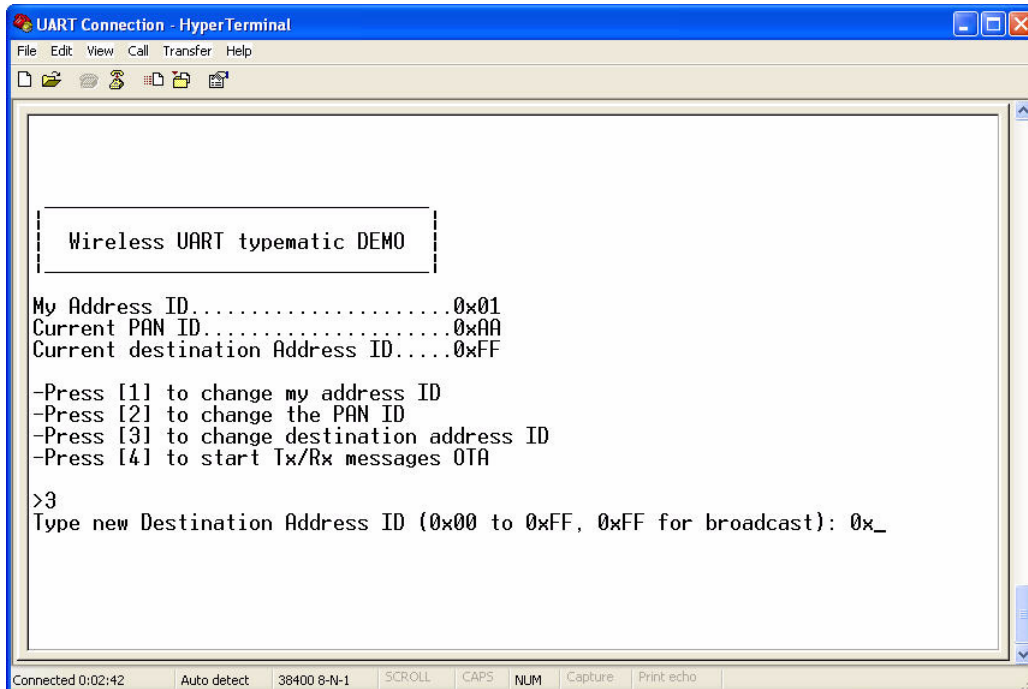

Figure 2-4. Destination Address ID String
- To change the Destination Address ID, press "3" from the main menu and the Address ID string appears as shown in Figure 2-4.